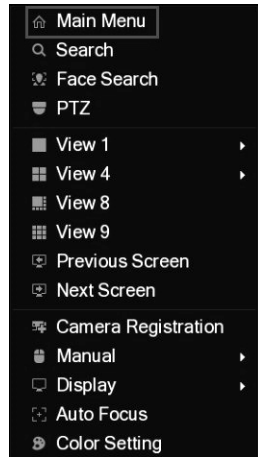

Figure 5-1
Step 1 In the live view screen interface, right-click anywhere on the screen. The shortcut menu is displayed. See Figure 5-1.
Step 1 In the live view screen interface, right-click within the live view window of the camera that you want to configure. The shortcut menu (Figure 5-1) is displayed.